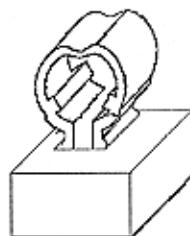
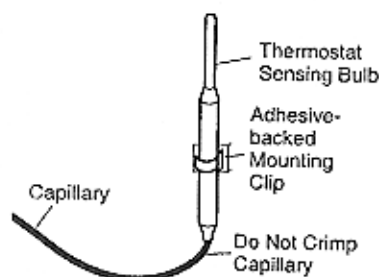

Figure 30-Adhesive-Backed Mounting Clip
Figure 35 - Position The Thermostat Sensing Bulb In The Vertical Position With Capillary at The Bottom
4. The mounting clip must be a minimum of 3" from bottom of fireplace to prevent crimping of capillary. Once you have decided on a location, thoroughly clean the area. Remove the paper backing from the adhesive on back of mounting clip (provided with the heater in hardware package) (see Figure 30). Press the clip into the new location so that the thermostat sensing bulb will be positioned vertically with the capillary at the bottom (see Figure 35). Slide the thermostat sensing bulb into the clip.